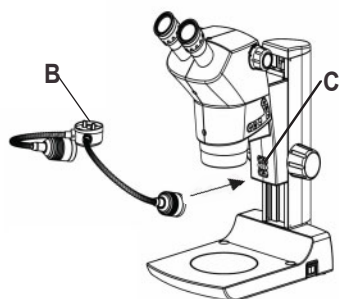

Fig. 3
2. Take Goose neck LED assembly (B) and connect the goose neck connectors. refer fig. 3.